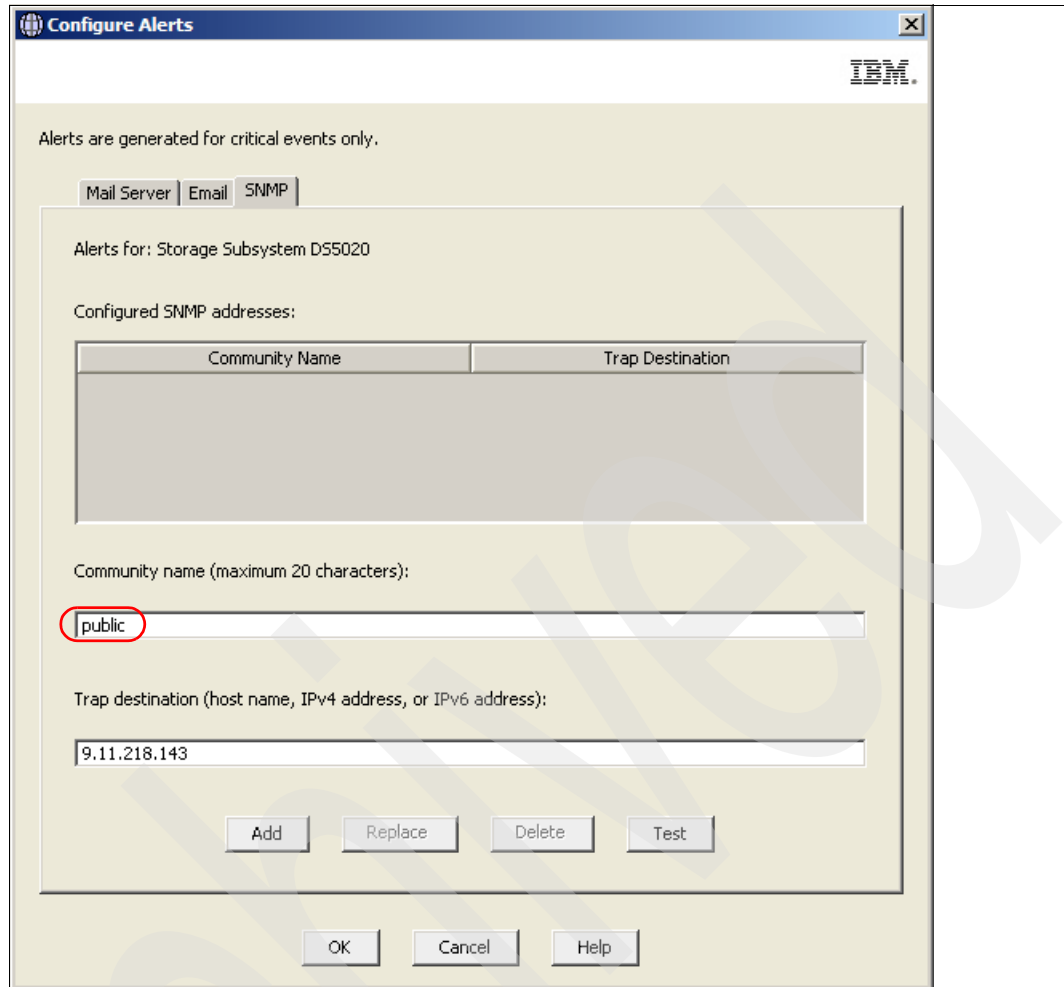

Figure 6-24 Add SNMP trap receiver
4. Enter the host name or the IP address of the RSM host in the trap destination field and click **Add** (Figure 6-24 on page 315). Do not change the SNMP community name (the default is *public*).